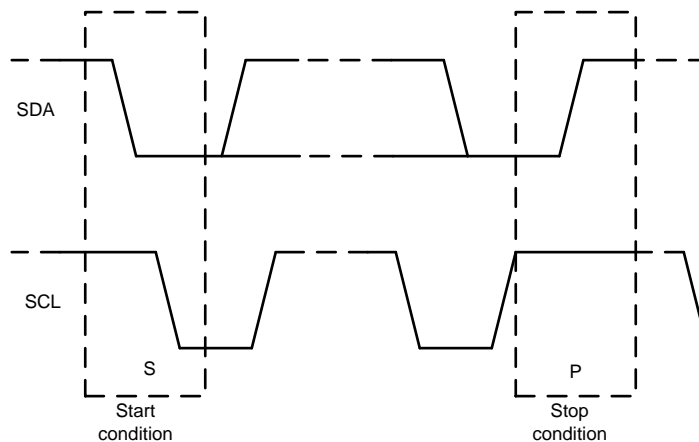

Figure 57. Start and Stop Conditions
1. The master initiates data transfer by generating a start condition. The start condition is when a high to-low transition occurs on the SDA line while SCL is high, as shown in Figure 57. All I²C™ compatible devices recognize a start condition.
4. To signal the end of the data transfer, the master generates a stop condition by pulling the SDA line from low to high while the SCL line is high (see Figure 57). This action releases the bus and stops the communication link with the addressed slave. All I²C™-compatible devices recognize the stop condition. Upon receipt of a stop condition, the bus is released, and all slave devices then wait for a start condition followed by a matching address.